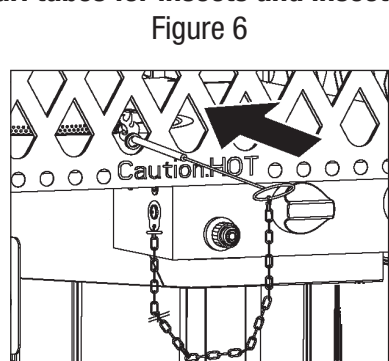

Figure 6
- Access the burner through the side Panel (Figure 6).